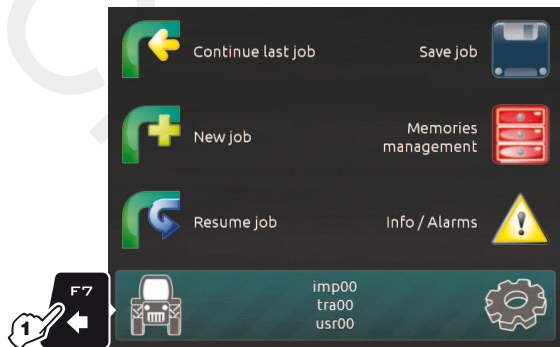

Fig. 52
- 1 Press **F7** in the "Home" screen (Fig. 52).